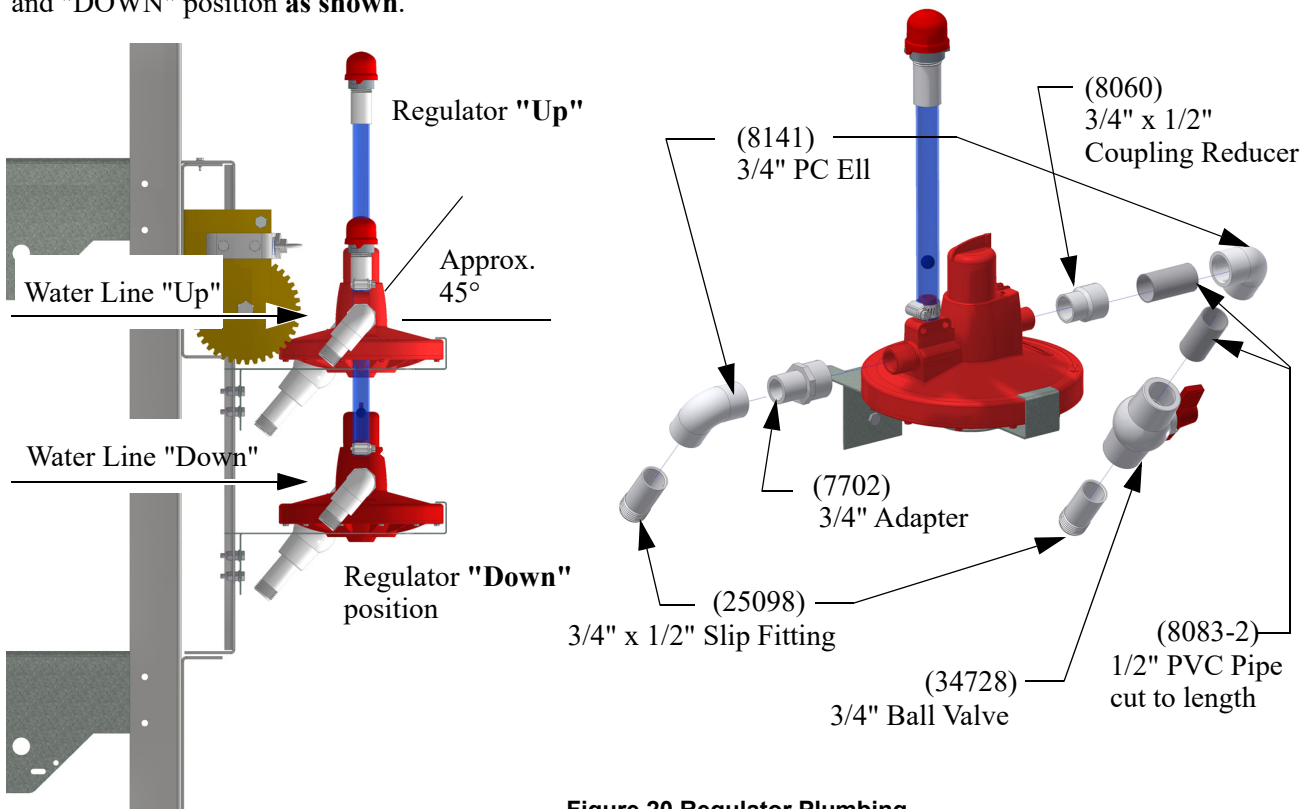

Figure 20.Regulator Plumbing
4. Use a 3/4" Adapter (7702), a 3/4" Ell (8141), and a Slip Fitting (25098) on the Out take side of the Regulator as shown. Angle down at a 45° to clear the Idler Back as shown. **!Important: Remember that the Regulator Assembly will need to travel up, so plan accordingly (See Figure 20.)**
5. Use a 3/4" x 1/2 Reducer (8060), a 3/4" Ell (8141), a 3/4" Ball Valve (34728), a 3/4" x 1/2 Slip Fitting and two pieces of 1/2" PVC Pipe (8083-2) cut to required length as shown. Angle at approximately 45° to clear Idler Back. **!Important: The Regulator will travel up, so plan accordingly (Figure 20.)**